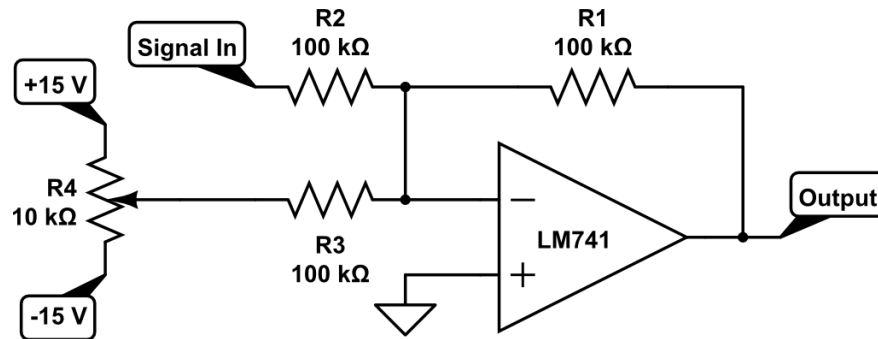

Figure 5: Summing Amplifier
- Construct the circuit shown in figure 5 with the input on channel 1 and the output on channel 2. Use a 2Vpp 1 kHz sine wave as the input signal. (Don't forget the  $\pm 15$  volt rails!)
- **Construct just the OA4 portion of the circuit** and test that Error behaves as expected by connecting the Set Point to 5 volts and V3 to the output of a 10k potentiometer wired to provide a variable voltage signal as in figure 5. Connect channel 1 of the scope to V3 and channel two to Error. Use the pot to vary the voltage both below and above 5 volts and describe the result.